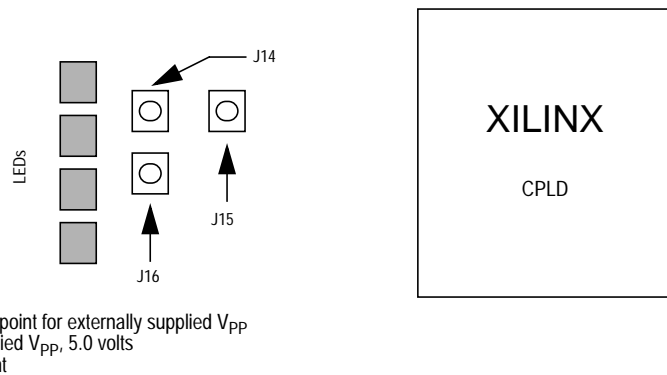

Figure 3. Detail of the EVB/CMB
2. Remove the 0- Ω resistor R68 from the back of the board (behind the area shown in the **Figure 3**).